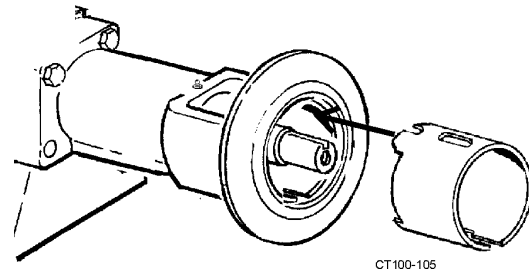

Figure 60 - Installing the Guard
9. Install and position the seal guard. (Figure 60).